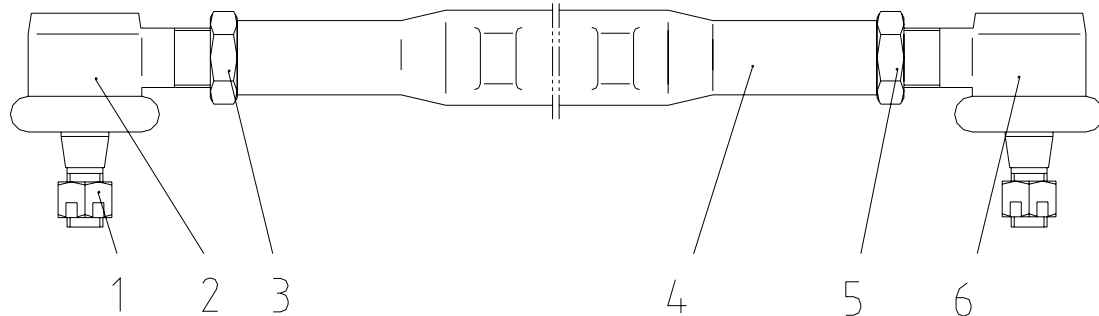

Fig. 6-8
After working for 500 hours, or the front wheels sways obviously, or the tire of front wheels abraded quickly, the tie-in needs to be checked. The proper tie-in is between 4 and 8 mm, it must be adjusted as well as it exceeds the range (Fig.6-8). When adjusting, put the tractor on the flat place, at the same time; turn the steering wheel to the mid position to make the wheels straight. Then loosen the left & right helical nut (3) and (5), rotate assistant tie rod (4). Measure the front and rear distances between two steering wheels at the same height of the front wheels shaft through the center of steering wheels. Adjust the assistant tie rod till the front distance is around 4 ~ 8 mm less than the rear distance ($B_{\text{rear}} - B_{\text{front}} = 4 \sim 8 \text{ mm}$). Tighten both of the nuts at last.